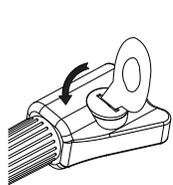

fig.1
- Turn the battery cover with the spanner (fig.1), then remove it.